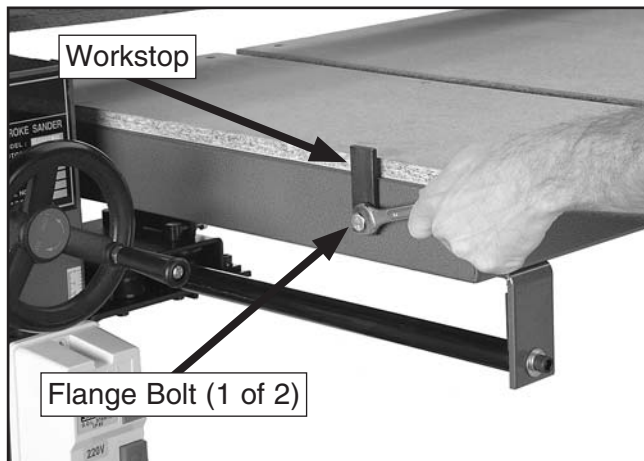

Figure 34. Table workstop.
1. Loosen the flange bolts that hold the workstops to the table (**Figure 34**).